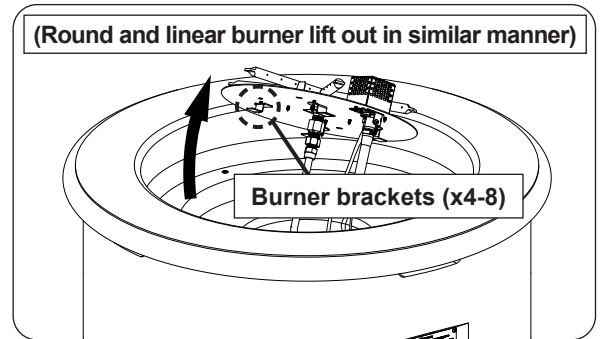

Fig. 51-1 Gain access to interior
1. The burner will need to be partially removed. Remove all media. Use a  $\frac{5}{16}$ " nut driver to partially unfasten the 4-8 screws found on the burner assembly. Then carefully lift out the burner and set it off to the side. See Fig 51-1.